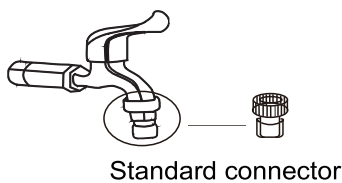

Figure 1
1. Replace the original connector with the supplied standard connector. **(Figure 1)**